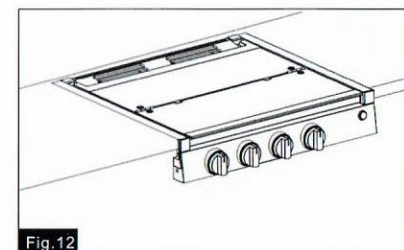

Fig.12
8. Press the backside of the top glass cover until you hear a click noise. The top glass cover is now locked into place. (Figure 12)